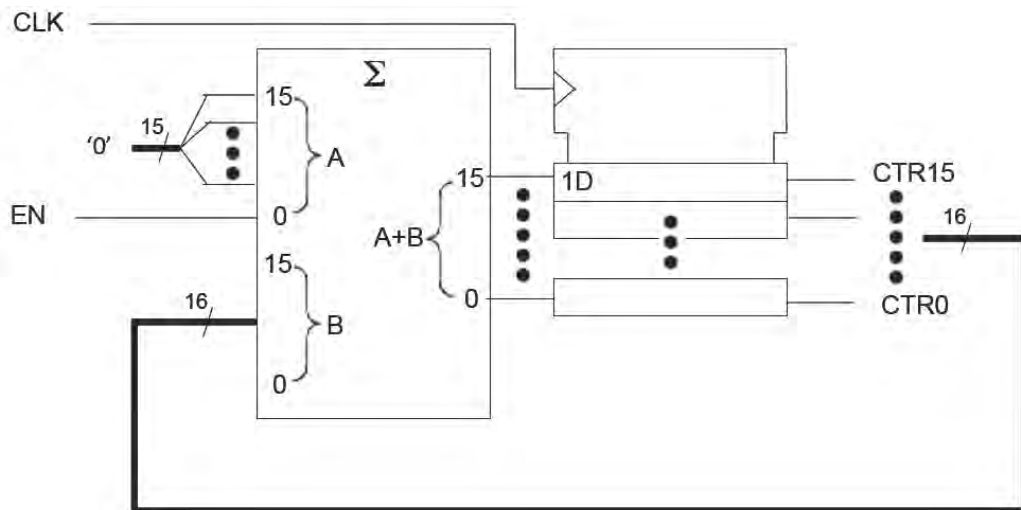

Figure 1.1
1. (a) *Figure 1.1* shows the schematic diagram of a 16-bit binary counter implemented on an Altera Cyclone III FPGA. It consists of a 16-bit adder and sixteen D-flipflops. EN is the enable input: if EN = 1, the counter output CTR[15..0] is incremented by 1 on the rising edge of CLK; otherwise, the counter is not incremented.